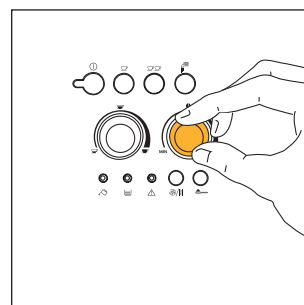
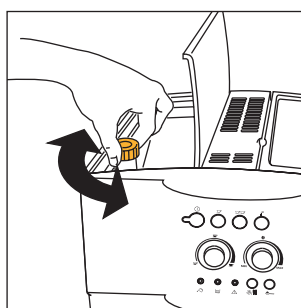

Fig.7
Fig.17
- 2) Adjust the right-hand knob (Fig. 7) to set the desired taste of the coffee. Turning the knob clockwise increases the quantity of coffee beans that the machine will grind, and thus makes the taste of the coffee stronger. When using the machine for the first time, the correct position of the knob can be found by trial and error. Make sure not to turn it too far clockwise, otherwise the coffee will be delivered too slowly (in drops), above all when preparing two cups of coffee.
NOTE 1: : If the coffee is delivered a drop at a time or not at all, turn the grinding coarseness regulator (fig. 17) one click clockwise (see para. 6). Turn a click at a time until the coffee is delivered satisfactorily.
NOTE 2: If the coffee is delivered too fast and is not creamy enough, turn the right-hand knob (fig. 7) clockwise. Proceed by trial and error to find the correct position of the knob. Make sure not to turn the knob too far clockwise, otherwise the delivery may become too slow (in drops), above all when making two cups of coffee. If, after several coffees, the cream is still not satisfactory, also turn the grinding adjustment knob (Fig. 17) one click clockwise (see para. 6).
To resolve this problem, re-set the grinding coarseness on the coffee grinder by adjusting the knob (Fig. 17) one click anticlockwise (as described in chap. 6).
Nonetheless, after having made the first coffees, if delivery is too fast or too slow (in drops), the grinding coarseness must be adjusted using the knob (Fig.17) located inside the bean container. Turning one click (one number) clockwise achieves faster delivery of the coffee (without drops).